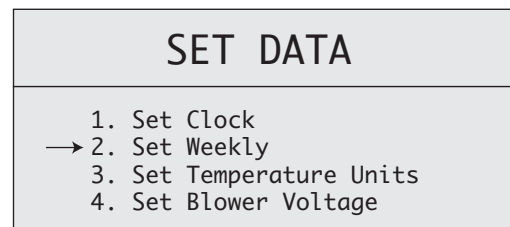

Figure 22: Set Data
1. Press and hold the **ENTER**  button (11, Fig. 17) until the "Set Data" menu appears on the screen. Using the **SCROLL DOWN** button (10, Fig. 17), select "Set Weekly." Press **ENTER**. This will take you into the "Weekly Schedule" screen. **SEE FIGURE 22.**